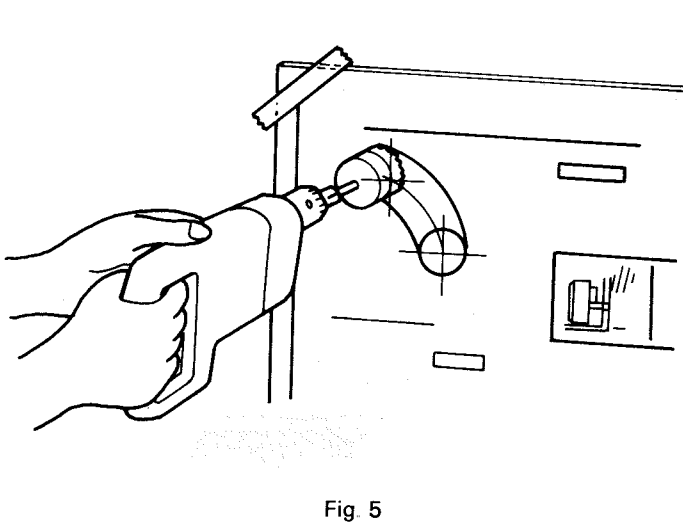

Fig. 5
4. Cut the hole for the standard flue pipe from inside the room. Use a 3-1/2" diameter hole saw attached to an electric drill (See Fig. 5). The opening on the inside wall should be slightly higher than the outside opening (approximately 1/2") so that the wall sleeve and the standard flue pipe will slope slightly downward (approximately 3 degrees) after it is installed (See Fig. 6). This will enable the draining of condensed moisture from the standard flue pipe to the outside and prevent rain or snow entering from outside after installation.